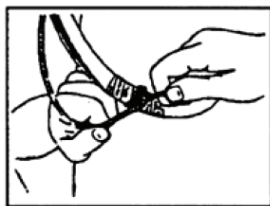

Figure 13
3. Tie pieces of string to the taped portions of the V-ring seal approximately 1 inch from cut (Figure 13).